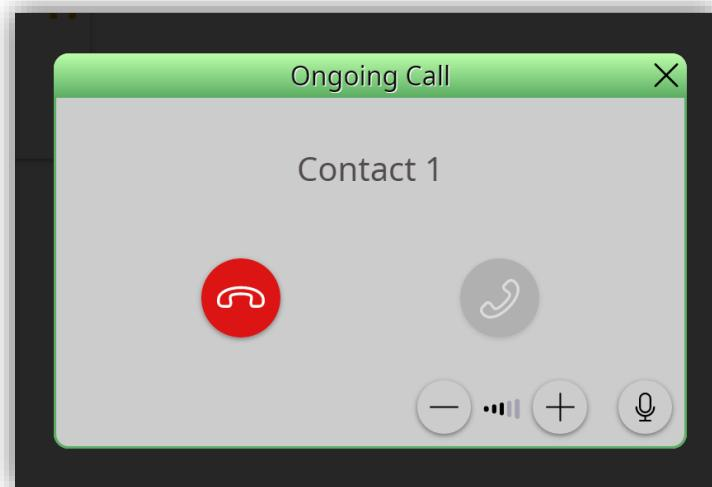

Figure 142. Ongoing call
- **Accept call**: opens ongoing call dialogue (Figure 142) initiating the audio communication.
When accepting an incoming internal call, the interface in Figure 142 will be displayed.